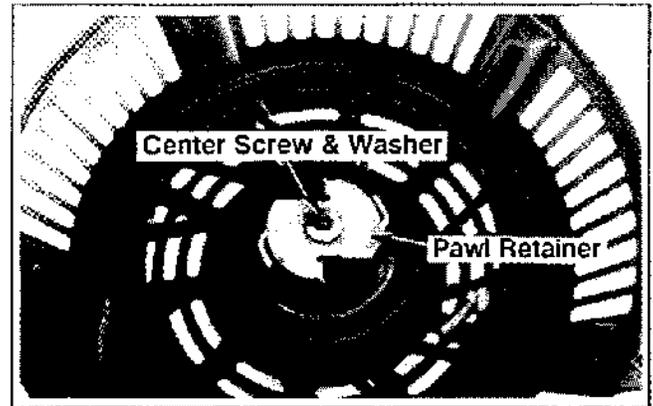

Figure 7-5. Center Screw, Washer And Pawl Retainer.
2. Remove the center screw, washer, and pawl retainer. See Figure 7-5.